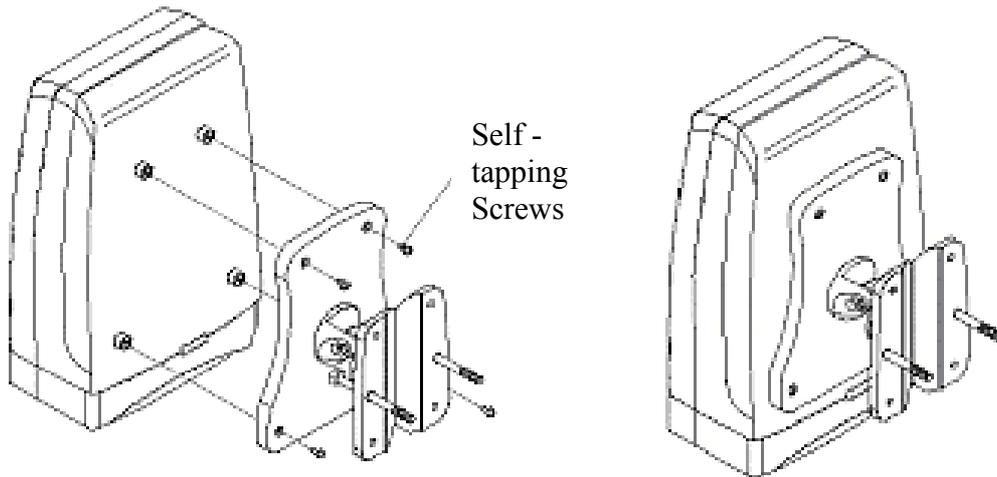

Figure 12-7: Mounting bracket assembly secured to IDR
5. Once assembled, the IDR mounting bracket assembly may be secured to the rear of the IDR using the 4-off self-tapping screws supplied in the unit fixing kit. See Figure 12-7.